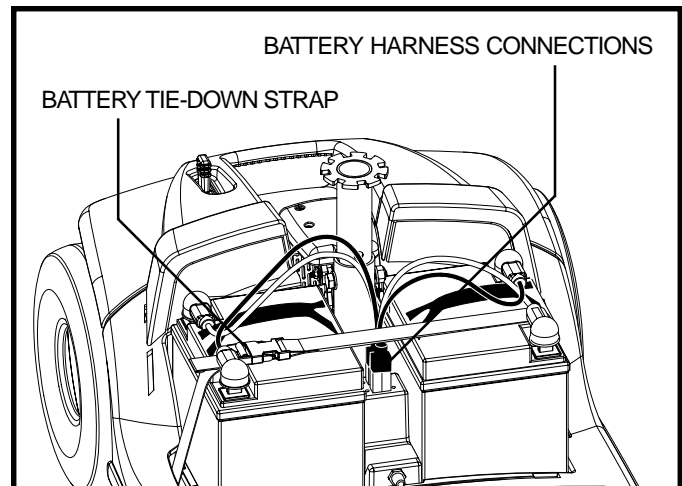

Figure 19. Harness Connections
4. Unplug both battery harnesses by pulling each harness straight up. **See figure 19.**
6. Connect both battery harnesses. See **figure 19**.